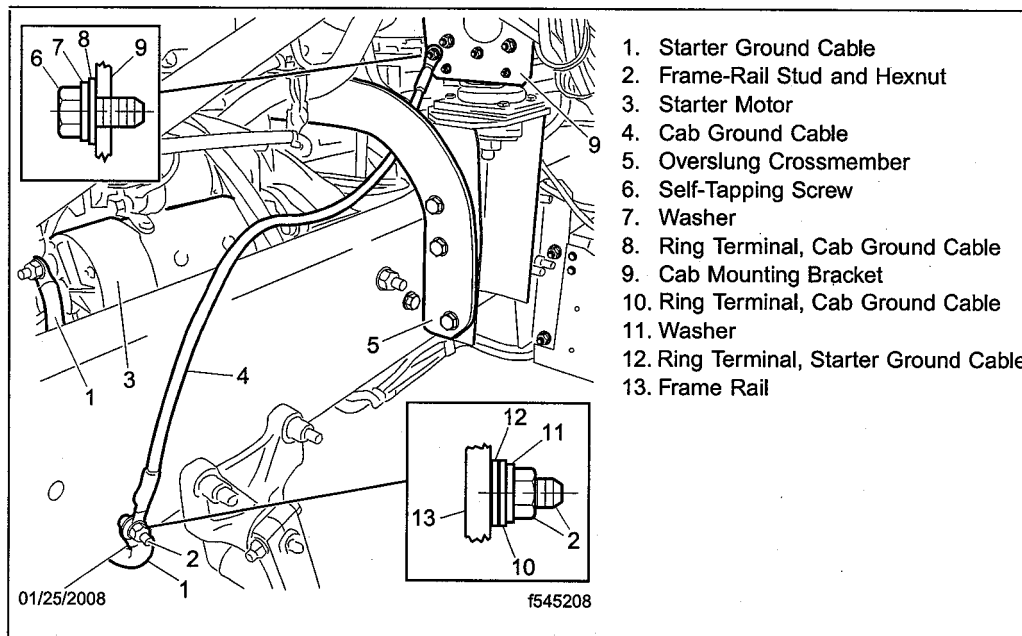

Fig. 1, Cab Ground Cable Installation
5. Install the new cab ground cable on the left front cab mounting bracket as follows. See Fig. 1.